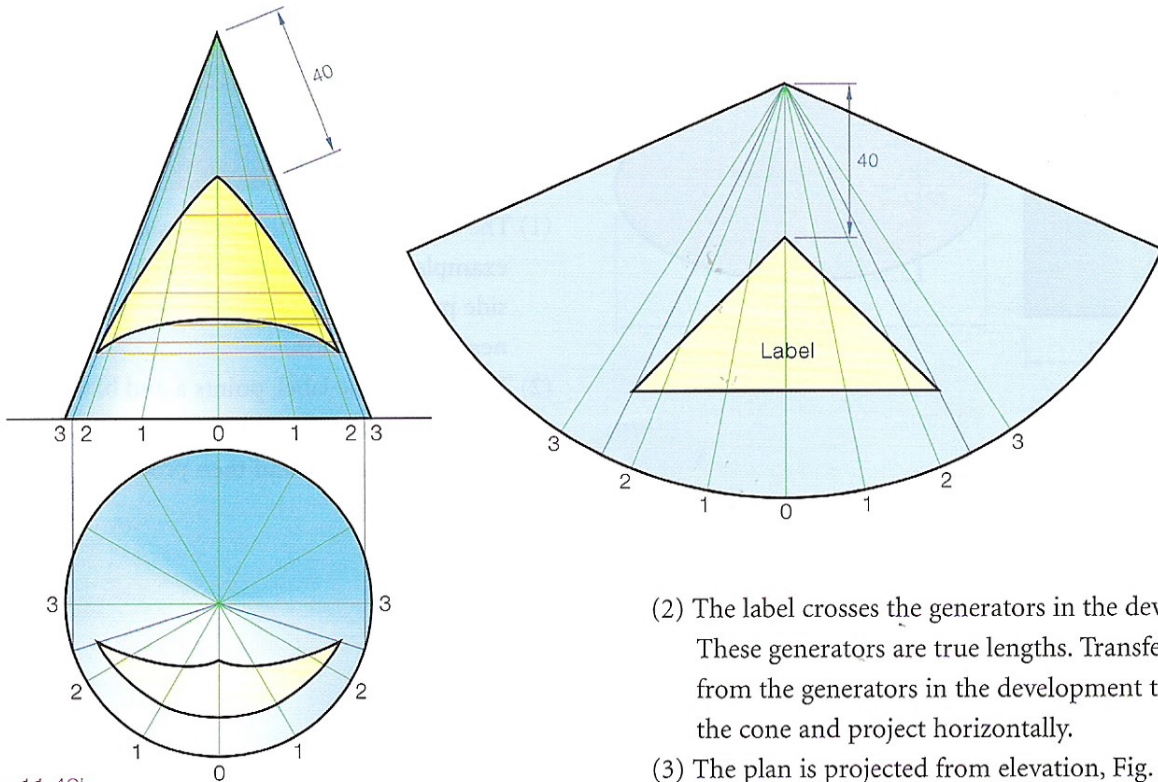

Fig. 11.42b
- (2) The label crosses the generators in the development. These generators are true lengths. Transfer the distances from the generators in the development to the side of the cone and project horizontally.
- (3) The plan is projected from elevation, Fig. 11.42b.